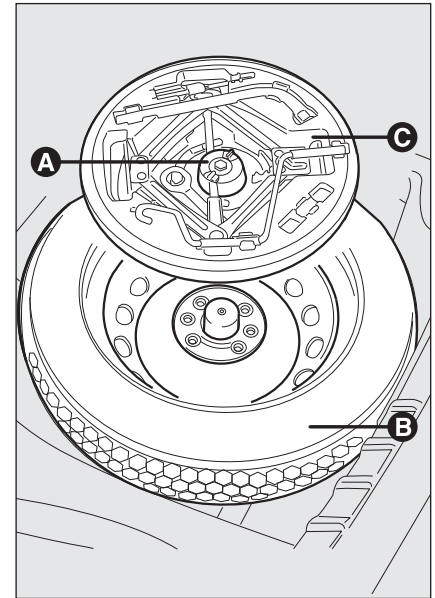

fig. 2
- unscrew the locking device **A-fig. 2**;
- take out the tool container **C-fig. 2** and put it alongside the wheel to be changed;
- take out the spare wheel **B-fig. 2**;
- put the jack back in its container **C-fig. 2** partially open by forcing it slightly against the container walls to prevent it from rattling around when travelling;
- stow the container **C-fig. 2**, complete with tools, inside the spare wheel;
- tighten the tool container clamping device **A-fig. 2**;